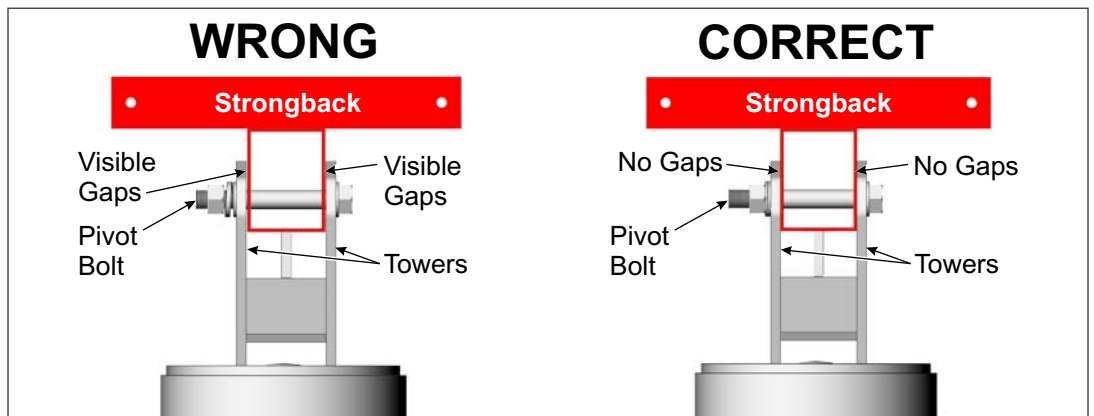

Figure 2-4: Tighten and Torque the Pivot Bolt
- G. Return and tighten the Pivot Bolt. The Pivot Bolt cannot be left loose - the Mounting Sleeve Vertical Towers must be firmly clamped to the sides of the Strongback eliminating any gaps between the Vertical Towers and the Strongback. **Torque to 125-150+ ft.-lbs. for 3/4" hardware or 200-250 ft.-lbs. for 1" hardware.** (See Figure 2-4)